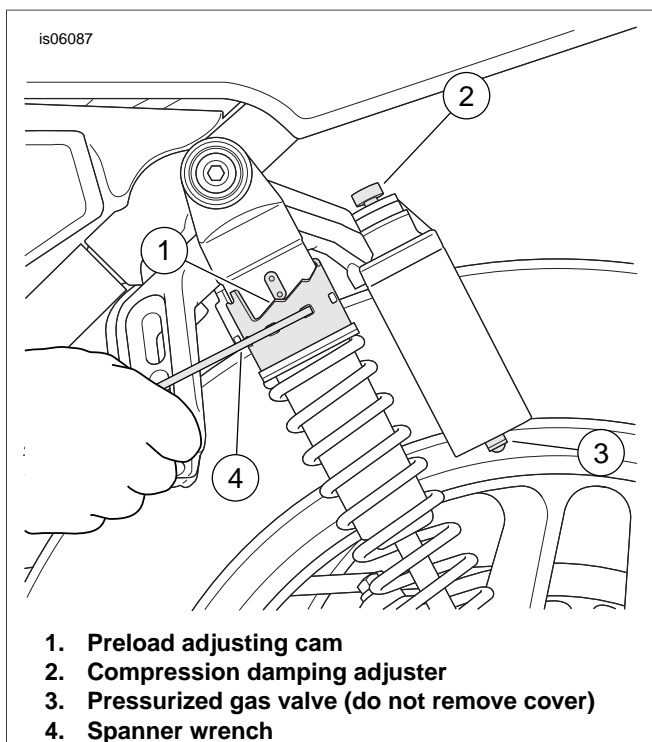

Figure 6. Rear Shock Preload and Compression Damping Adjusters
- a. See Figure 6 and Table 3. Using the spanner wrench turn the adjusting cam (1) to the recommended position as specified in Table 3.
- a. See Figure 6. Using fingers, turn the compression adjuster (2) clockwise (toward the "H") until it stops. This is the maximum compression damping setting.